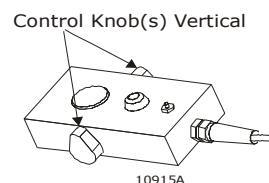

Figure 6: Control Knobs Vertical
- The control knobs are in the vertical position. (Refer to Figure 6:)